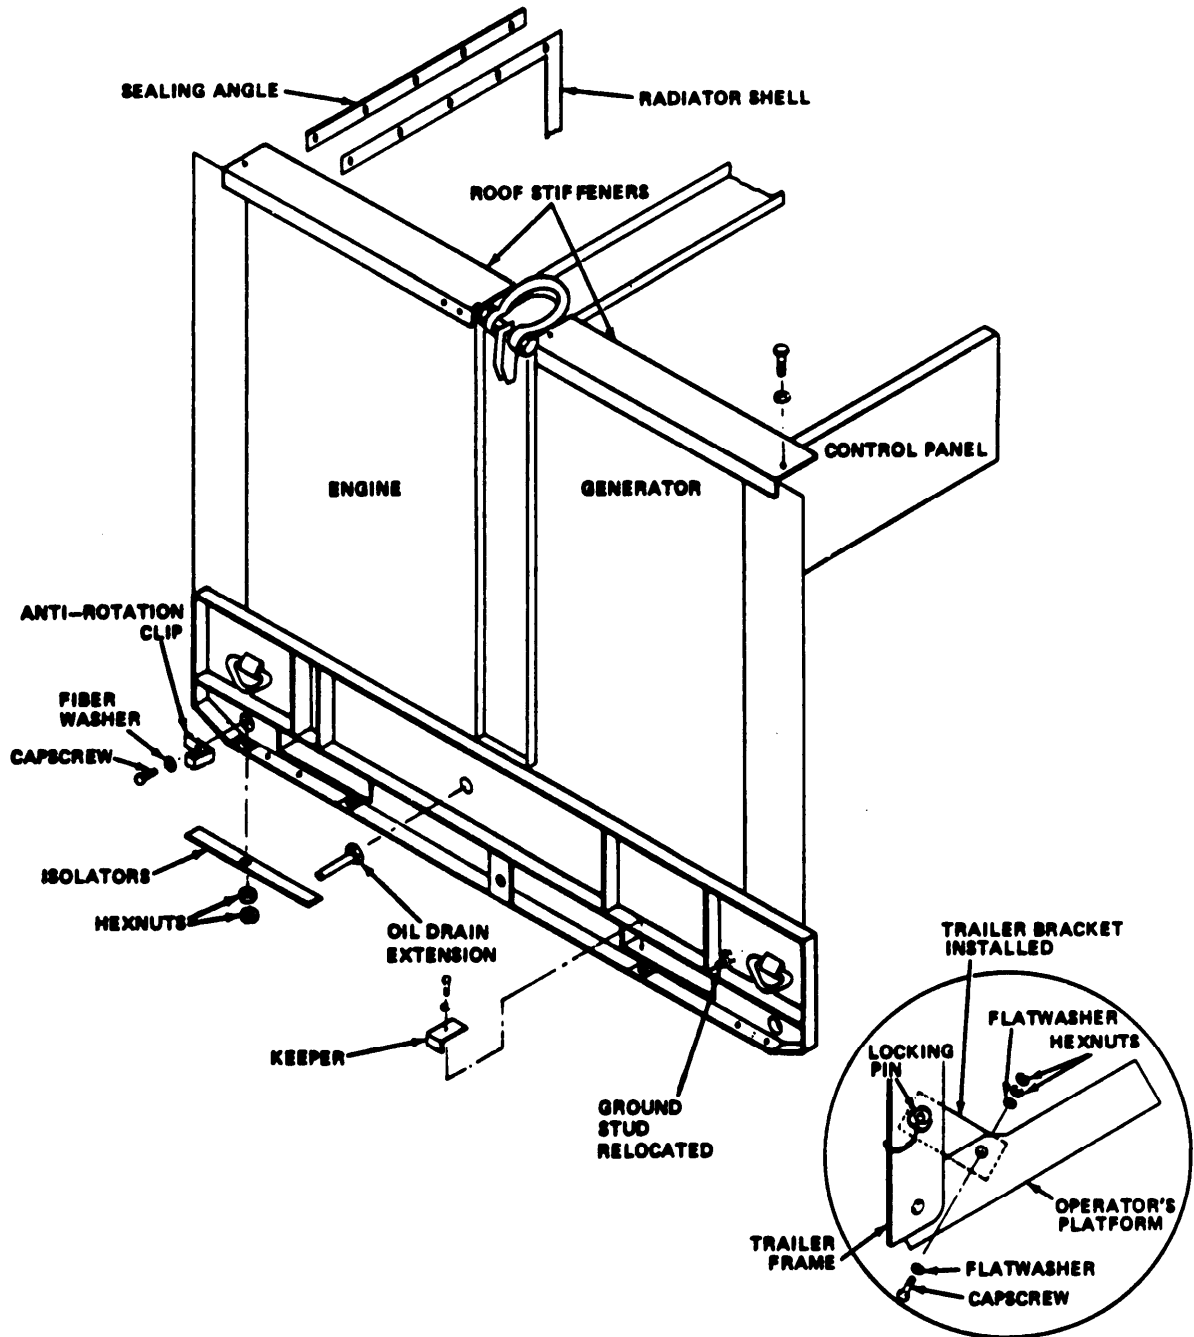
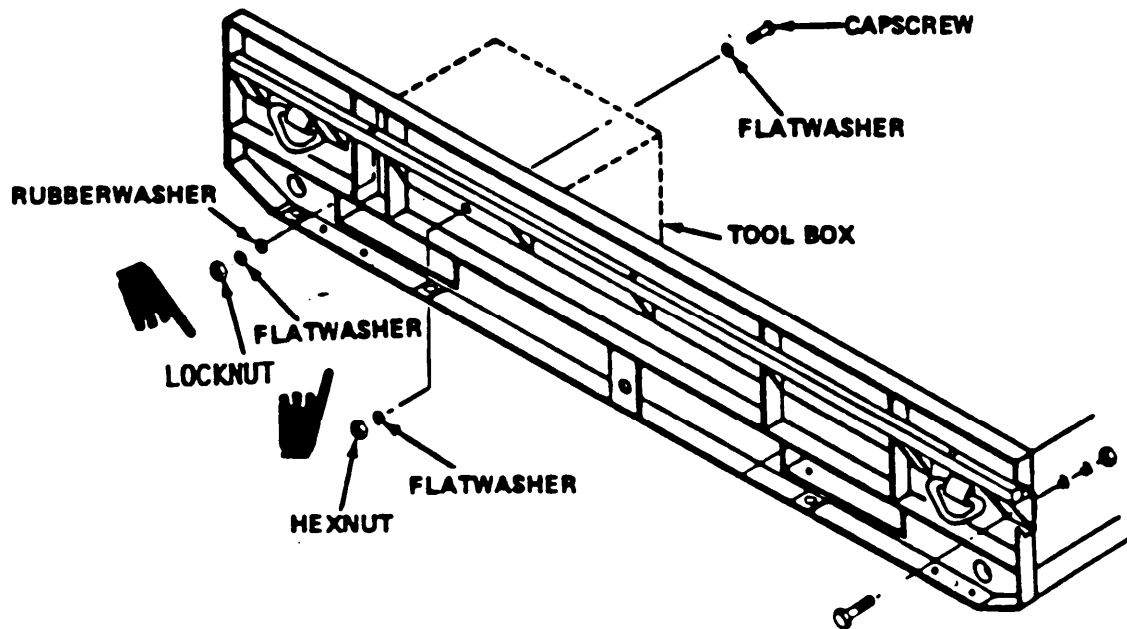

Figure 8-23. Roof Stiffeners, Sealing Angle, Oil Drain, Isolators, Bottom Panel Tray Assembly, and Trailer Brackets
Figure 8-25. Mounting Hardware and Hole Location for Side Panel Assembly
(3) Locate left rear tiedown on skid base. Remove the ground stud. Measure down 5-1/8 inches from lip of skid base, and 3-5/8 inches from vertical lip of skid base, Center punch where two lines meet. Refer to figure 8-24. Using ground stud as a guide, drill two holes in skid base. (Refer to figure 8-23.) Install ground stud in holes. Install ground plate under ground stud. It may be necessary to remove wire ties from the ground wire to the ground stud.
(5) Position mounting member on skid base, and install the capscrew, flatwashers, lock-washer; and nut.
(6) Position the mounting member until it is parallel to the top of the skid base. Mounting member's top surface should be 7/8 inch lower than top of skid base. (Refer to figure 8-25.) Use a C-clamp to hold the mounting member in position.
(7) Measure mounting member along skid, and using mounting member as a template, drill end hole, and install capscrew, flatwashers, lockwasher, and nut. Measurement from top of member to top of skid base must be 7/8 inch before holes are drilled. (Refer to figure 8-25.)
(8) Drill holes and install remaining capscrews, flatwashers, lockwashers, and nuts on mounting member. Heads of capscrews must be outside of skid. Due to location of tool box, one head of capscrews must be positioned in tool box. This capscrew is longer than other capscrews. (Refer to figure 8-25.) Do not tighten capscrews.
(9) Repeat steps (1) thru (5) for mounting member on other skid.
(10) Remove oil drain plug. Install fitting, hose, and clamp supplied with acoustic suppression kit.
(11) Position roof stiffeners and sealing angle on generator set. Install hexhead capscrews and lockwashers to secure roof stiffeners. Do not tighten capscrews on sealing angle. (Refer to figure 8-23.)
(12) Using a suitable lifting device, raise generator set and place 6"x6" blocks under skids. Lower generator set onto blocks,
(13) Grease inside of generator set skids with grease (GAA).
(14) Using a suitable lifting device, raise generator set, remove 6"x6" blocks, and place 2"x4" blocks under skids of generator set. Lower generator set onto 2"x4" blocks. Ensure blocks are under skids only. Do not remove tension from lifting device.
(15) Slide bottom tray under generator set. Ensure weld nuts are positioned in down position. Weld nuts should be centered on fork lift tunnel holes.
(16) Raise bottom tray assembly, and install keepers, washers, and capscrews to secure one side of bottom tray assembly. (Refer to figure 8-23.)
(17) Raise generator set, and remove 2"x4" blocks. Place a 1"x4" block under bottom tray assembly on other side and slowly lower generator set to push bottom tray assembly into position. Rubber must not bend or be allowed to tear loose when generator set is lowered.
(18) Install keepers, washers, and capscrews to secure the bottom tray assembly. (Refer to figure 8-23.)
(19) Raise generator set, and remove 1"x4" block. Lower generator set and remove lifting device.
(20) Raise side panel skirt 90° and remove from side panel assembly. Remove screws, capscrews, washers, keepers, and remove upper side panel skirt. (Refer to figure 8-25.) Attach lifting sling, and carefully raise and position side panel assembly on mounting member.
(21) Install three rubber washers, three flatwashers, and three locking nuts supplied with kit in bottom of side panel. Ensure rubber flaps are flat against radiator and are pointed forward. Remove plastic plug and feed oil drain hose through side panel hole. (Refer to figure 8-25.)
(22) Remove lifting sling from side panel.
(23) Repeat steps (20) thru (22) to install other side panel.
(2) Glue isolators on skid base or surface of trailer. Refer to figure 8-23.
(3) Lower generator set onto the trailer. Run the ground wire along the generator and trailer frames to the trailer ground stud. Connect the ground wire to the trailer ground stud.
(4) Install washers and nuts to secure generator set.